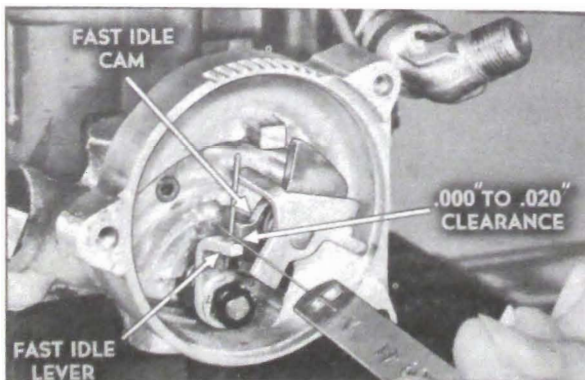
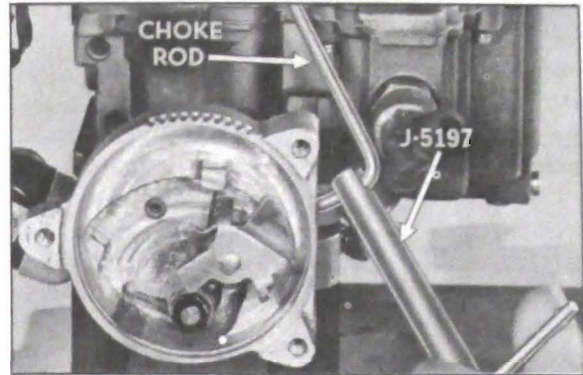

Figure 3-64—Checking Fast Idle Cam Adjustment
Figure 3-65—Adjusting Fast Idle Cam
6. Remove throttle stop screw. Open throttle enough to clear fast idle cam and fully close choke valve by pushing up on thermostat spring lever. Then close throttle until fast idle lever rests on high step of fast idle cam. The side of the fast idle lever should just clear the upper index lug on the fast idle cam. Check clearance with Gauge J-1388 or a .020" feeler. See figure 3-64. If clearance is not correct, bend choke rod as required to obtain correct clearance using Tool J-5197. See figure 3-65.